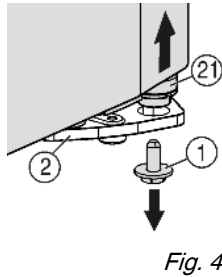
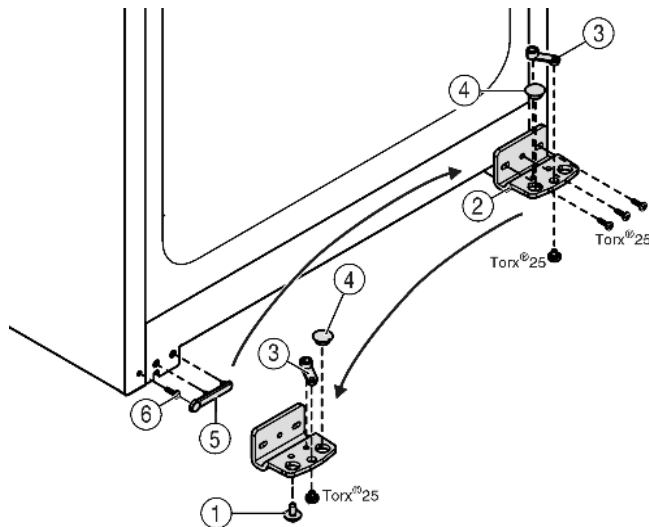

Fig. 4
Fig. 5
- ▶ The bearing pin *Fig. 4 (21)* should come out of the turn hinge *Fig. 5 (2)*.
- ▶ If the bearing bolt *Fig. 4 (21)* doesn't undo press it out from underneath.
- ▶ Unscrew the turn hinge *Fig. 5 (2)*.
- ▶ Unscrew the bearing element, *Fig. 5 (3)* transfer it to the opposite location hole of the turn hinge and screw it firmly into place.
- ▶ Take the stopper *Fig. 5 (4)* out of the turn hinge and transfer it to the receiving hole on the opposite side of the turn hinge.
- ▶ Carefully lift off the cover *Fig. 5 (5)* on the handle side.
- ▶ Undo the screw *Fig. 5 (6)* and transfer it to the opposite side.
- ▶ Put the cover *Fig. 5 (5)* back on.
- ▶ Screw the turn hinge *Fig. 5 (2)* firmly into place on the new hinge side (**with 4 Nm**), possibly using a power screwdriver.
- ▶ Insert the securing screw *Fig. 4 (1)* at the bottom into the bearing pin and tighten it (**with 4 Nm**).